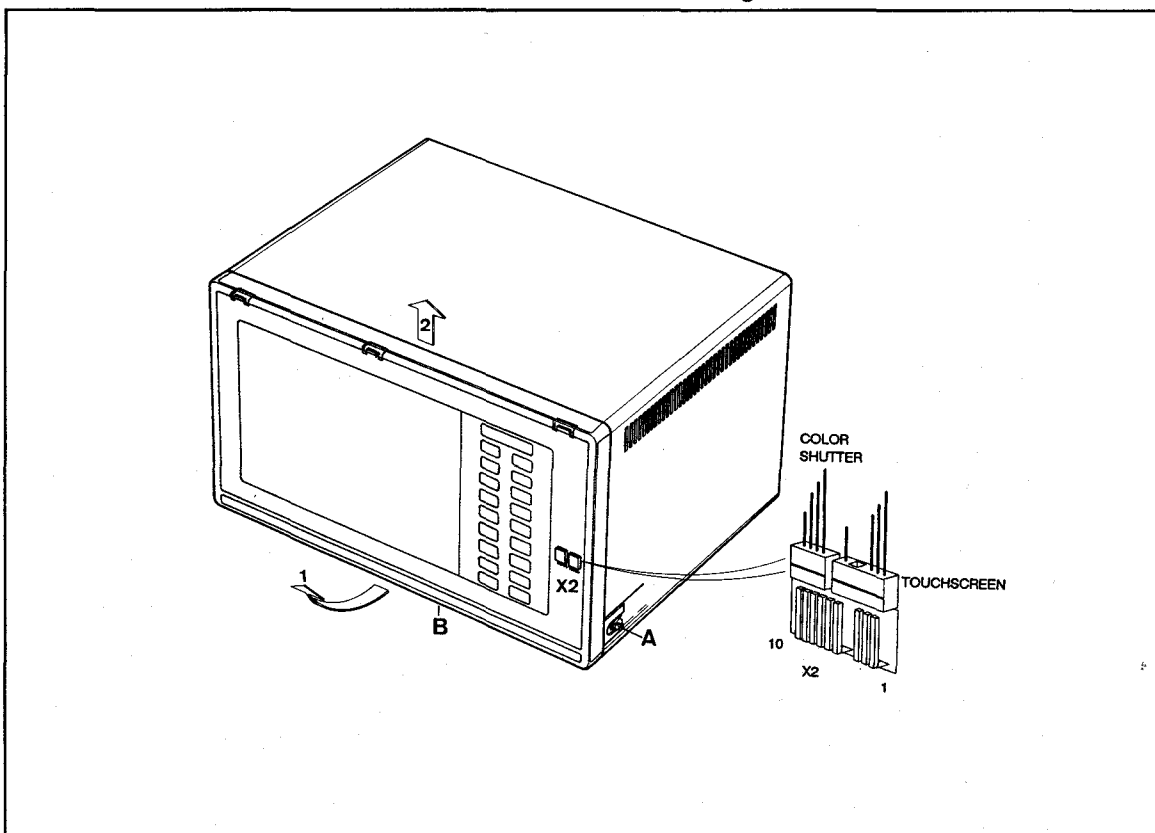

Figure 4-12. Front Panel Subassembly
Refer to Figure 4-12.
1. Hold the Front Panel Subassembly close to its position when installed on the monitor, to minimize tension on the connectors, and plug the connectors from the Touch-Screen and the Color Shutter (only on 1281 monitors) into X2 on the Operator Interface Board. Refer to Figure 4-12.